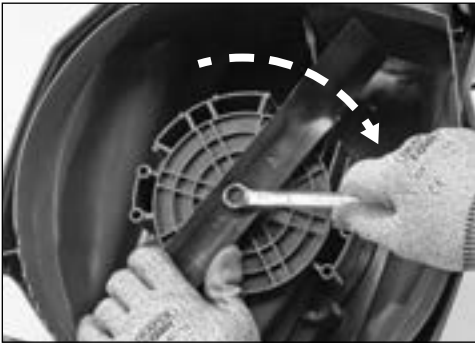

Fig. 9
6.6 Check Blade Bolt is tight (Fig.9).